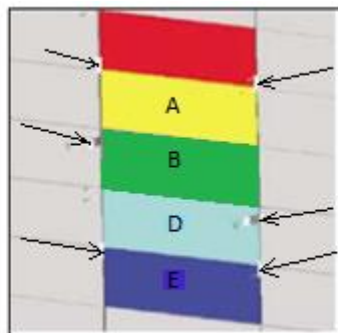

Fig.2
3. Connect panels A and B with sheet steel in both corners at the far end (Figure 2 and 3). Choose binding points in a way that eventually it is possible to cover them with flashings. The maximum permissible load per screw is 25 kg.